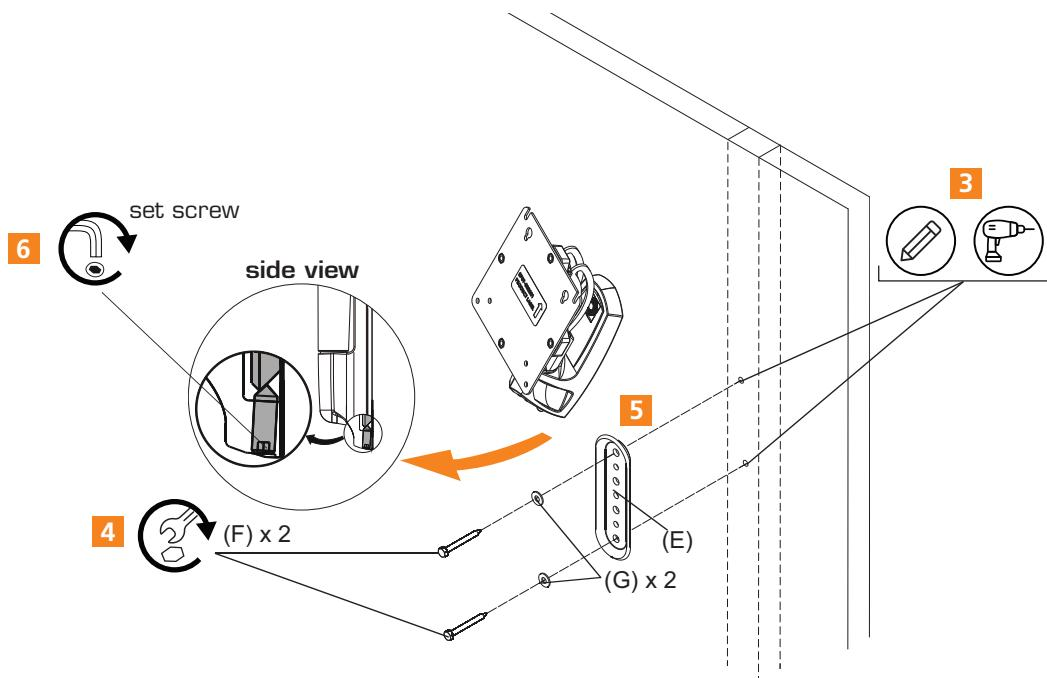

Figure 1-18 How to mount the Lingua RAD mount onto the wall
3. Use wall bracket (E) to mark and drill two 1/8 x 2 1/2" holes in wall at desired mounting location. (See Figure 1-18)
4. Use two 1/4-2 1/2" hex head lag screws (F) and two 1/4" washers (G) to install wall bracket (E) onto wall.